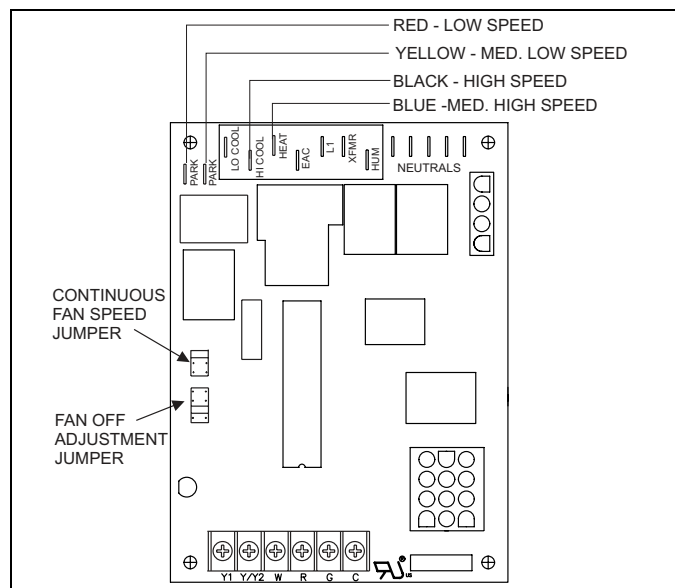

FIGURE 24: Typical Heat/Cool Speed Tap Connections
- E. Use the 5/16" (7.94 mm x 1/8" (3.175 mm) reducing coupling and a 4" (101.6 mm) piece of 1/8" (3.175 mm) tubing to connect the positive side of the manometer to the gas valve pressure reference port. Refer to Figure 24 for connection details.
Remove the screws securing the burner box front cover plate. Remove the cover. The gasket and may stick in place. Connect the positive side of the manometer to the gas valve as described in E above. There will be no second connection to the manometer, as it will reference atmospheric pressure. Refer to Figure 24 for connection details.